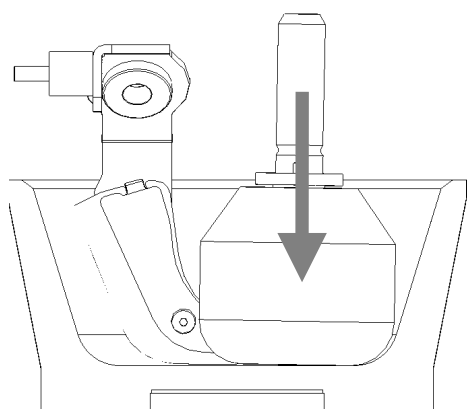

Fig.7
- Then move the pestle backwards again until resistance is felt. To do this turn the pestle knob **L** to the right. **Fig. 7**
• In **Fig.7** the optimum setting has been reached since the lower rounded surface of the pestle is now running in the lower rounding of the mortar.
- This increases the pressing force downwards **Fig.7**